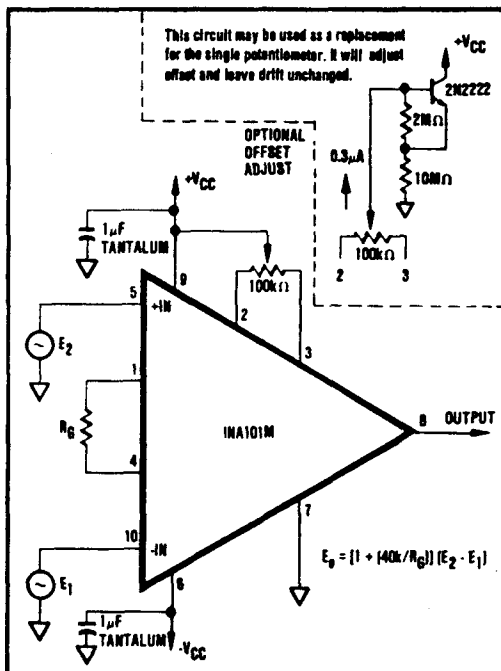
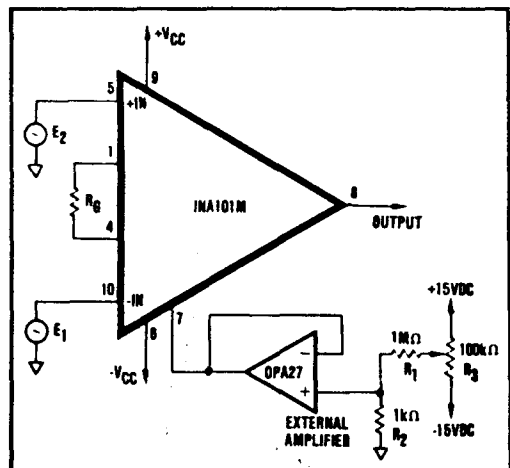

FIGURE 2. Basic Circuit Connection for the INA101 Including Optional Input Offset Null Potentiometer.
FIGURE 3. Optional Output Offset Nulling or Offsetting Using External Amplifier (Low Impedance to Pin 7).
At +25°C and in circuit of Figure 2 unless otherwise noted.
Figure 2 shows the simplest configuration of the INA101. The gain is set by the external resistor, R_G , with a gain equation of $G = 1 + (40k / R_G)$. The reference and TCR of R_G contribute directly to the gain accuracy and drift.
The optional offset null capability is shown in Figure 2. The adjustment affects only the input stage component of the offset voltage. Thus, the null condition will be disturbed when the gain is changed. Also, the input drift will be affected by approximately $0.31 \mu V / ^\circ C$ per $100 \mu V$ of input offset voltage that is trimmed. Therefore, care should be taken when considering use of the control for removal of other sources of offset. Output offsetting can be accomplished in Figure 3 by applying a voltage to Common (pin 7) through a buffer amplifier. This limits the resistance in series with pin 7 to minimize CMR error. Resistance above 0.1Ω will cause the common-mode rejection to fall below 106dB. Be certain to keep this resistance low.
The basic circuit connection for the INA101 is shown in Figure 2. The output voltage is a function of the differential input voltage times the gain.
It is frequently desirable to null the input component of offset (Figure 2) and occasionally that of the output (Figure 3). The quality of the potentiometer will affect the results, therefore, choose one with good temperature and mechanical-resistance stability. The procedure is as follows:
ity is shown in Figure 2. The input stage component of the input stage component of the null condition will be affected. Also, the input drift is only $0.31 \mu\text{V}/^\circ\text{C}$ per $100 \mu\text{V}$ trimmed. Therefore, careful use of the control for offset. Output offsetting can be achieved by applying a voltage to the offset amplifier. This limits the common-mode error. Be certain to keep this
IN the INA101 is shown in Figure 3 as a function of the gain.
3. Adjust to $100\text{k}\Omega$ potentiometer in Figure 2 until the output reads $0\text{V} \pm 1\text{mV}$ or desired setting. Note that the offset will change when the gain is changed. If the output component of offset is to be removed or if it is desired to establish an intentional offset, adjust the $100\text{k}\Omega$ potentiometer in Figure 3 until the output reads $0\text{V} \pm 1\text{mV}$ or desired setting. Note that the offset will not change with gain, but be sure to use a stable external amplifier with good DC characteristics. The range of adjustment is $\pm 15\text{mV}$ as shown. For larger ranges change the ratio of R_1 to R_2 .